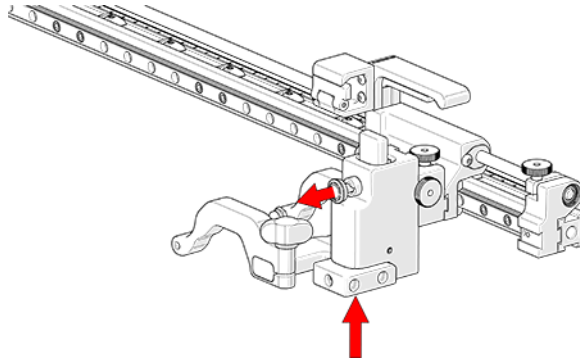

Figure 3-25 Press up and pull latch
1. Gently lift the heavy duty probe holder and simultaneously pull the latch (see Figure 3-25 on page 59).